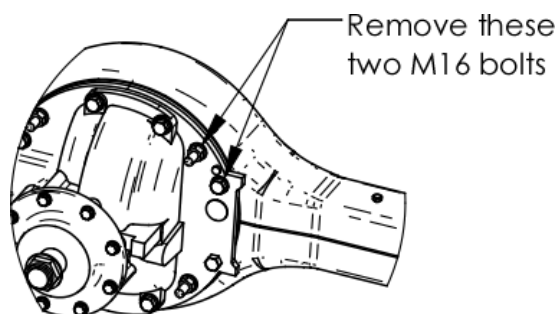

Figure 5. Removal of Axle Bolts.
2. Remove the two axle differential bolts as shown in Figure 5.